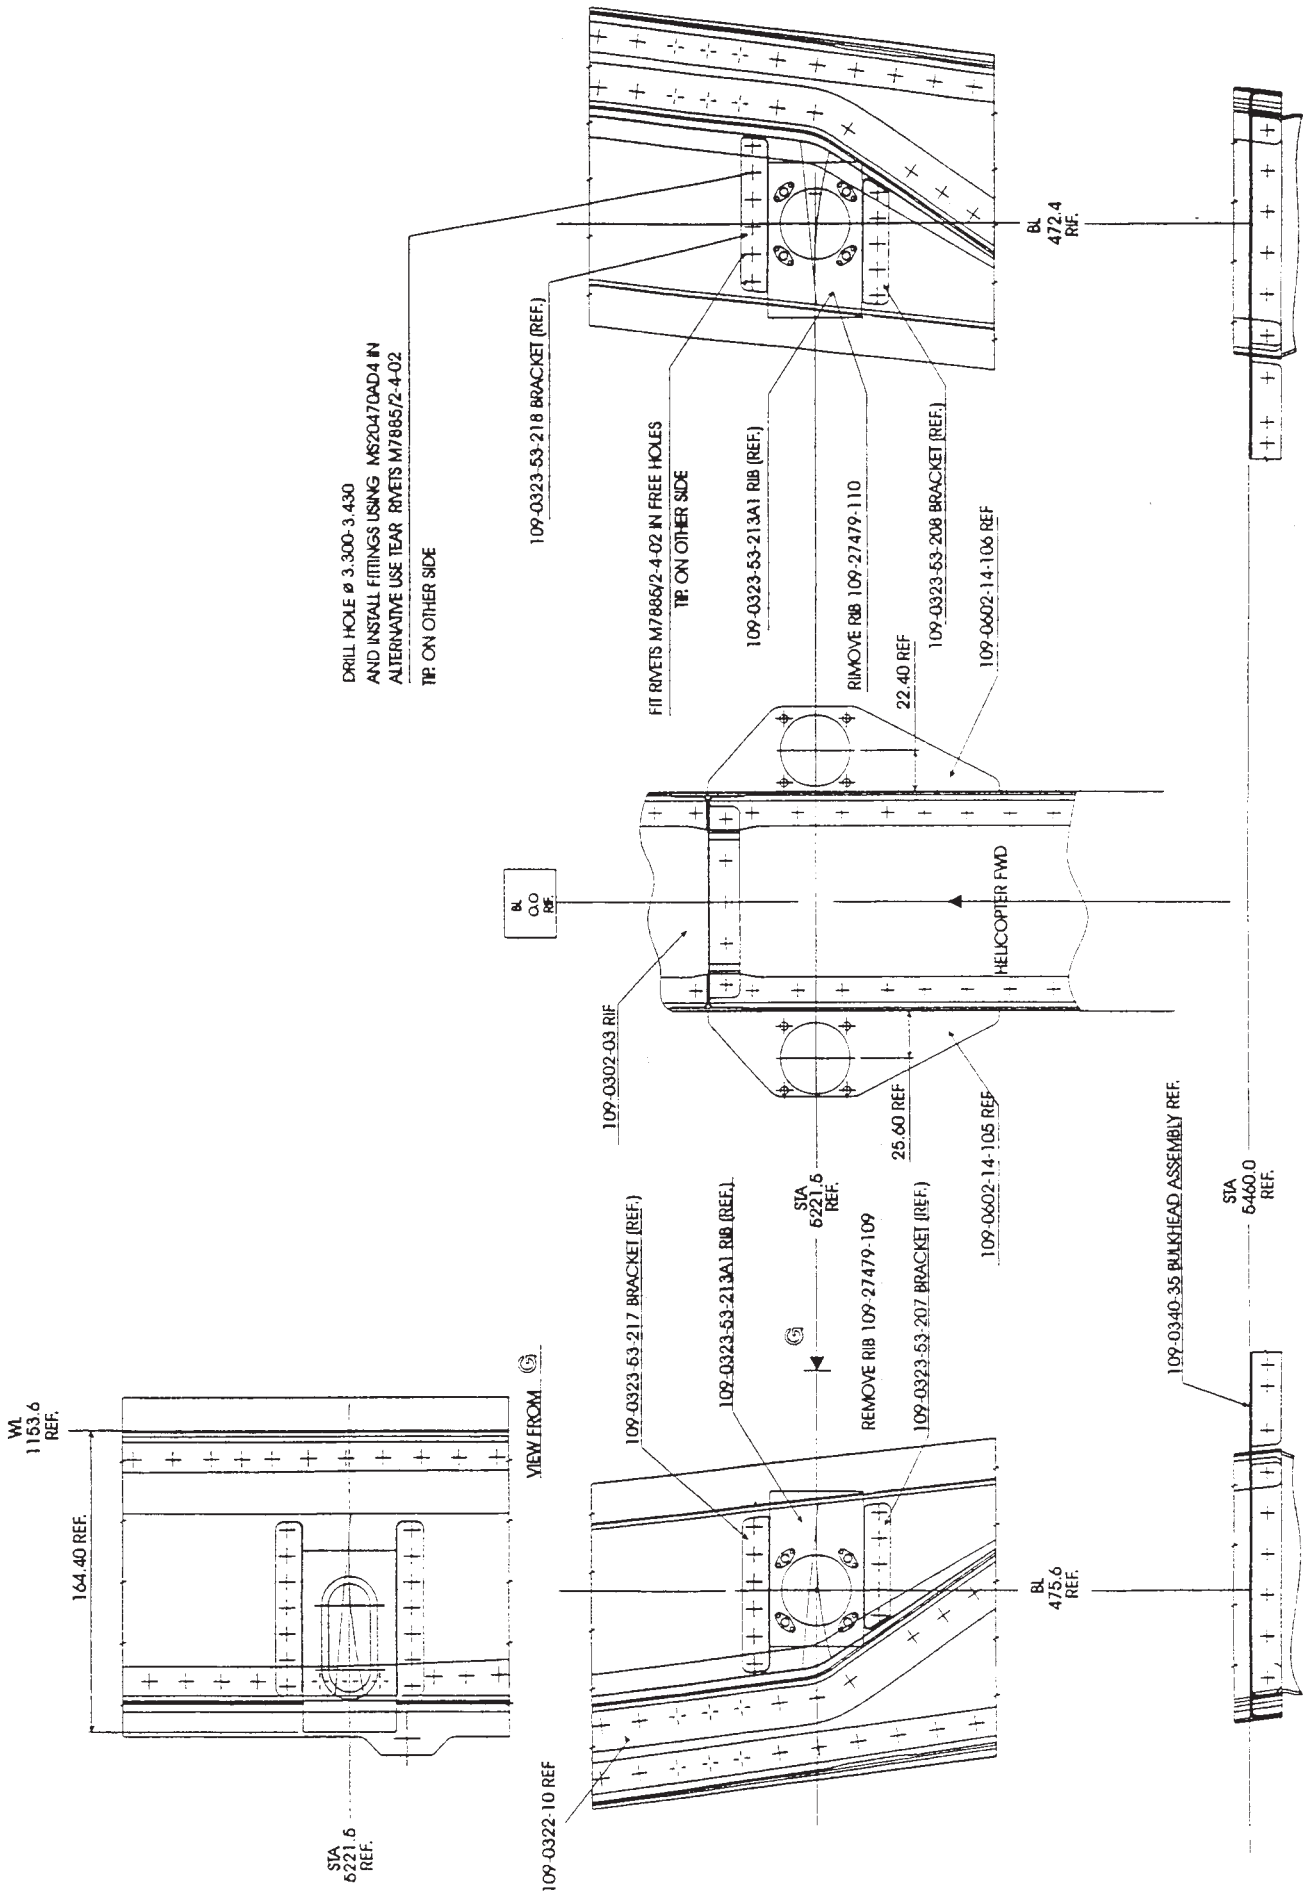

FIGURE 9
- 8.1.1. Unrivet rib P/N 109-27479-109 (LH) /-110 (RH) from brackets (refer to figure 9)
Ensure to position tool parallel to bulkhead assy (refer to figure 9).
- 8.2.5. Install rib P/N 109-0323-53-213A1 (LH and RH) on centering assy P/N 109-3600-36-115 and position fwd bracket P/N 109-0323-53-217 (LH) /-218 (RH) on beam as indicated in figure 9. Countermark beam with bracket.
- 8.2.6. Position aft bracket P/N 109-0323-53-207 (LH/ -208 (RH) on beam as indicated in figure 9.